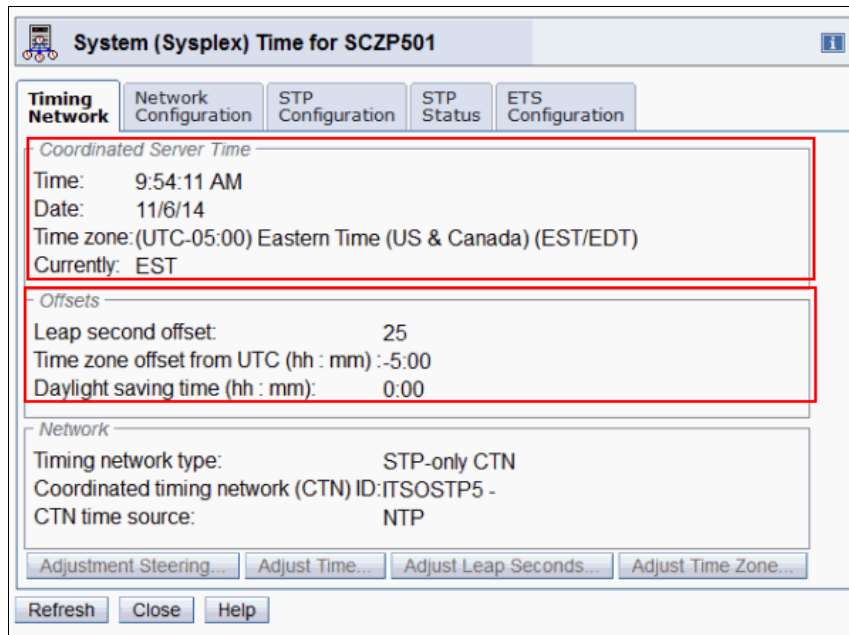

Figure 9-49 System (Sysplex) Time: Verifying the Timing Network
- The **Timing Network** tab is now similar to Figure 9-49. Verify that the Coordinated Server Time and Offsets sections show the results of your settings (Figure 9-49).